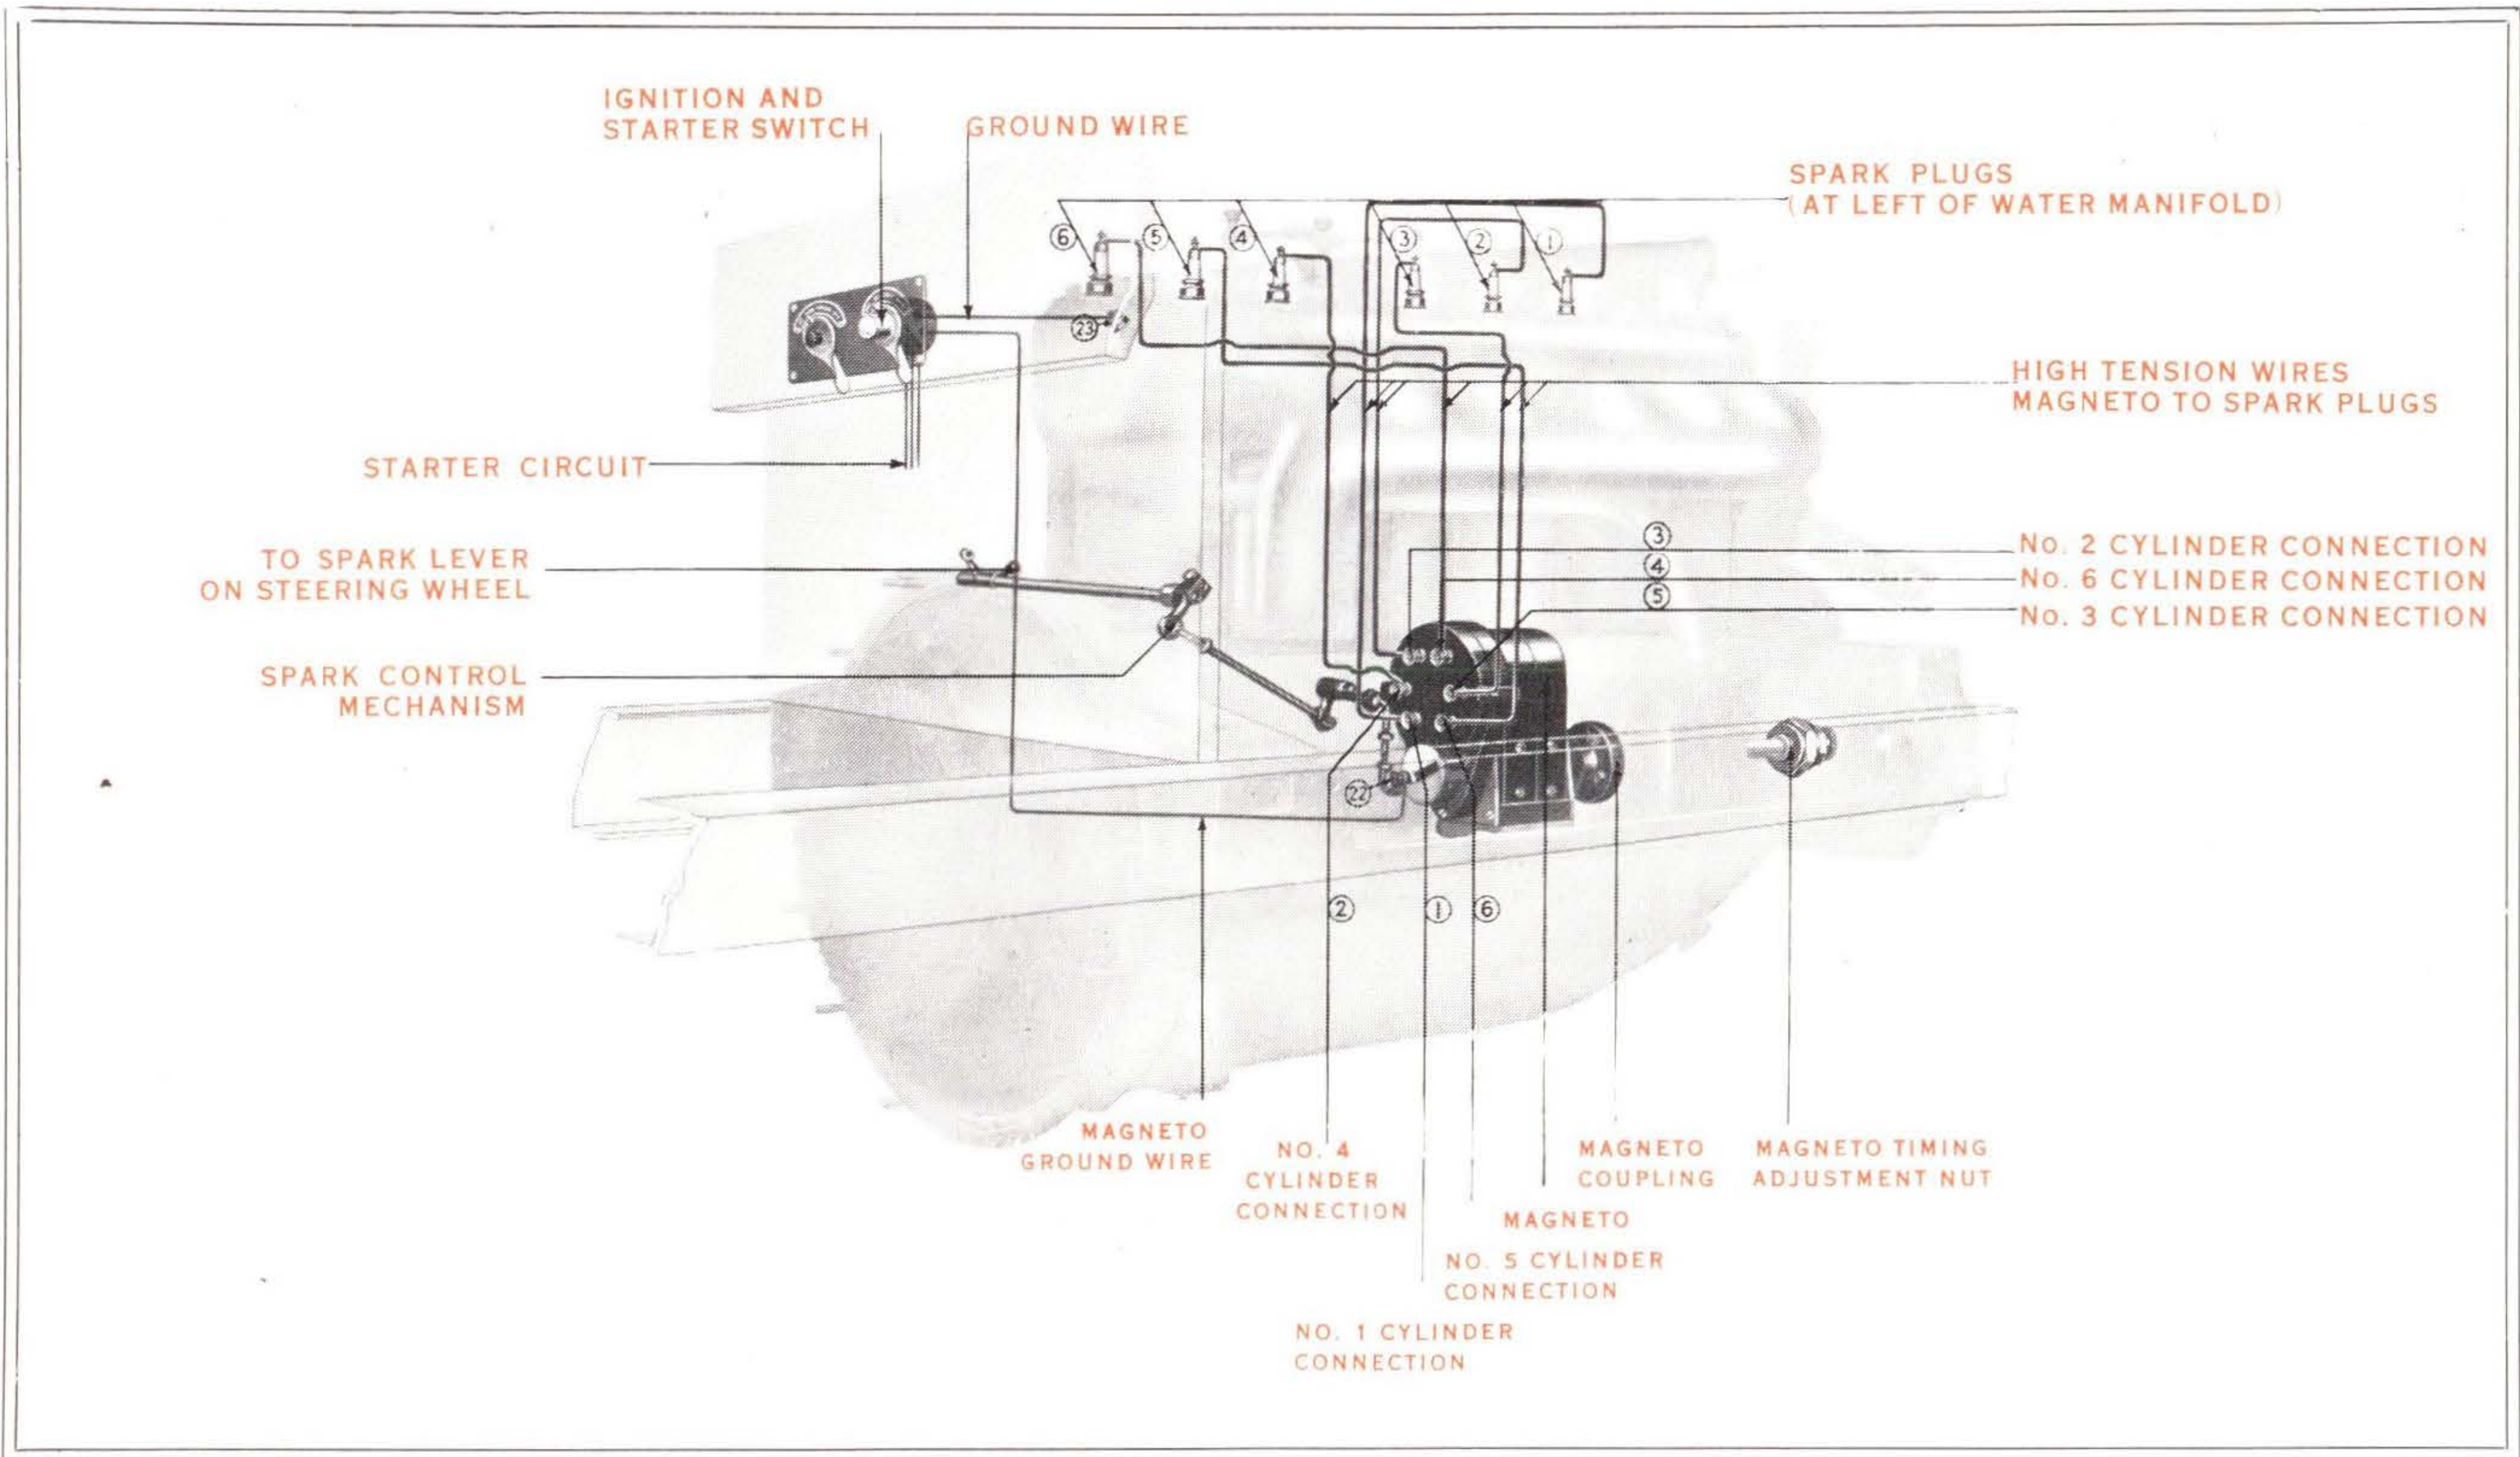

Fig 5—Ignition System of Chalmers "Master Six" (Model 29)
The magneto is on the right side of the motor. (See Figure 5.) It is bolted to a platform especially designed to carry it and is driven by the same shaft that operates the water pump. The magneto is in effect a small dynamo. By its magnets and armature it develops through the coil a high tension current when the motor is running.
Next revolve the armature until the distributor segment comes in contact with the lower left-hand lead, looking toward the distributor block from the back of the magneto. This is the wire which carries the current to No. 1 cylinder. (See Figure 5.)
At the forward end of the shaft which drives the pump and the magneto of the Chalmers "Six" will be found a large, hexagonal nut. (See Figure 5.) Loosening this nut by turning in an anti-clockwise direction frees the magneto shaft. It is then possible to turn the shaft and so rotate the armature of the magneto until exactly the right adjustment is secured.
The wiring connections of the magneto are shown in Figure 5.
The "magneto-to-switch" wire goes from the binding post (22) on the "contact breaker" to the post (21) on the back of the dash switch. (Figure 5.)